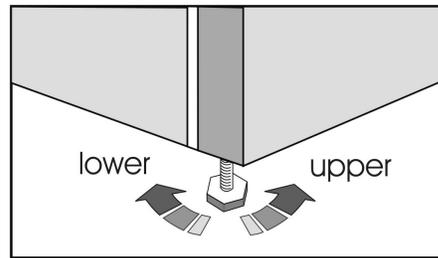

Fig 4
4. The appliance should be positioned on a firm, flat surface. The two front feet can be adjusted as required. To ensure that your appliance is standing upright adjust the two front feet by turning clockwise or anti-clockwise, until firm contact is secured with the floor. Correct adjustment of feet prevents excessive vibration and noise (**Fig 4**).